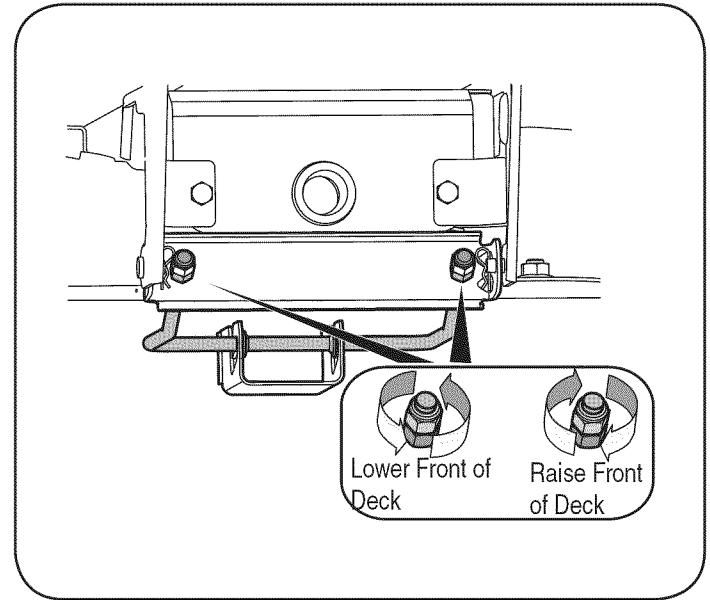

Figure 16
3. Working at the front of the tractor, loosen the two hex lock nuts at the front of the deck hanger rod. Thread the lock nuts away from the hex nuts behind them. Refer to Figure 16.
4. Use an open end wrench to turn the inner hex nuts to adjust the front of the deck. Turn the hex nuts clockwise to raise the front of the deck, or counterclockwise to lower the front of the deck. Adjust the hex nuts evenly so that the deck hanger rod is at the front of both slots in the hanger bracket on the front of the deck. See Figure 16.